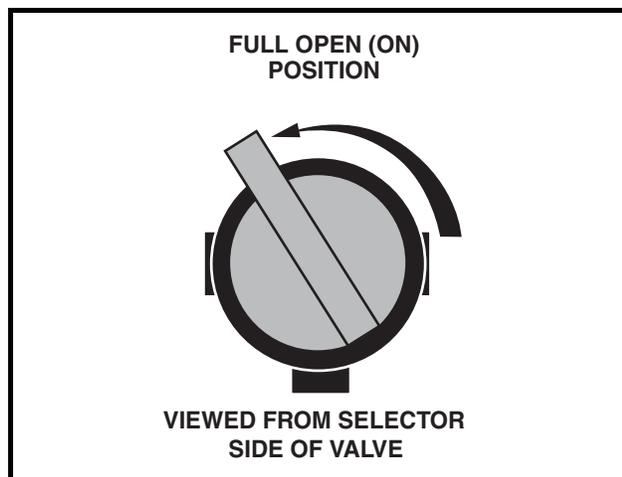
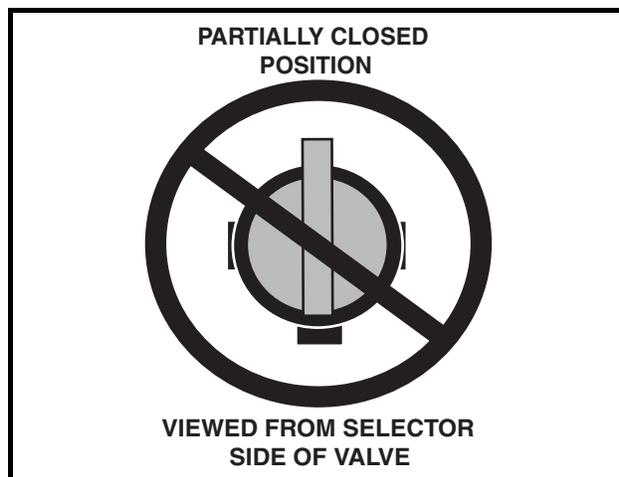

Figure 15 Fuel Shut-off Valve – Open Position
Figure 16 Fuel Shut-off Valve – Partially Closed Position
3. Completely open the fuel shut-off valve (**Figure 15**). Make sure the valve is fully open. A partially closed fuel shut-off valve (**Figure 16**) combined with the use of the choke can result in a fouled spark plug and engine failure.